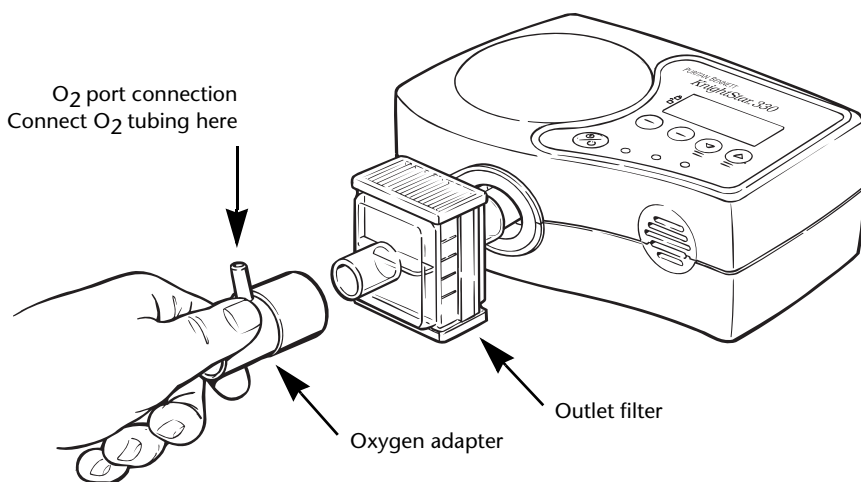

Figure 3-1. How to connect the oxygen adapter to the outlet filter
1. Connect the oxygen adapter to the *KnightStar 330* filter outlet (refer to Figure 3-1).
2. Connect the oxygen supply tubing to the small port on the oxygen adapter, as shown in Figure 3-1.